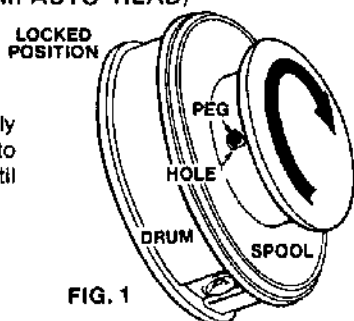
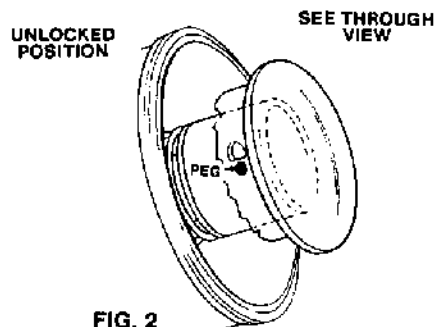

FIG. 1
FIG. 2
1. (Do not push spool in.) Hold drum firmly and turn spool in direction shown (Fig. 1), to take up slack, then twist with a hard snap until plastic peg is not visible in hole (Fig. 2).